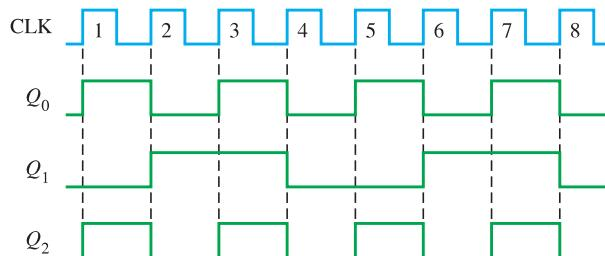

FIGURE 9–80
- 41.** Solve Problem 40 if the Q_2 output has the waveform observed in Figure 9–81. Outputs Q_0 and Q_1 are the same as in Figure 9–80.